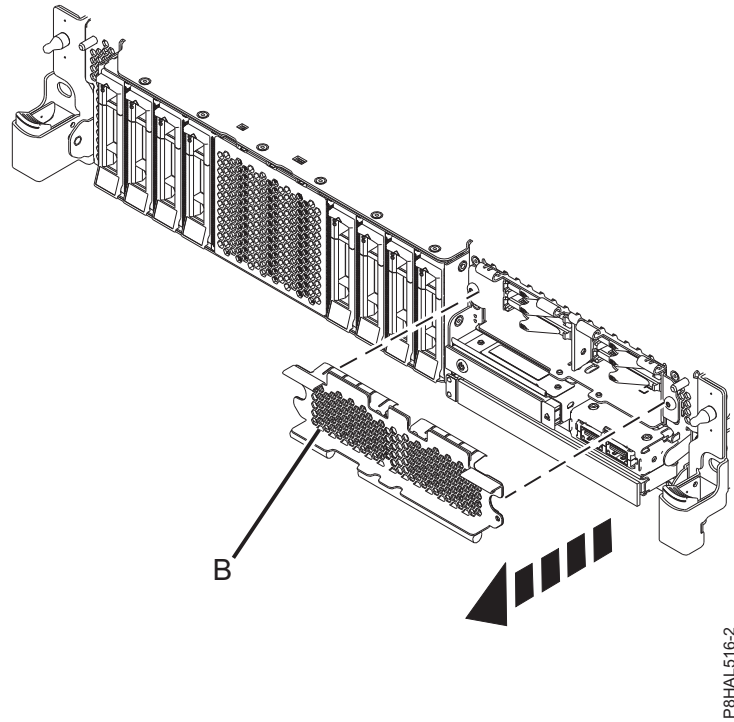

Figure 64. Removing the SSD cage cover to access the SSD slots in an expanded function system
12. To access the SSD slots, remove the perforated plate (B) covering the SSD cage as shown in Figure 64 on page 65.